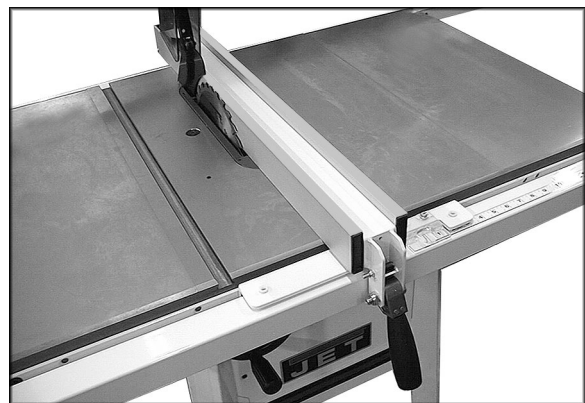

Figure 15
2. Slide the fence until it just contacts the cutting tips of the blade (Figure 15) and lock it down with the handle. Do not force the fence into the blade.